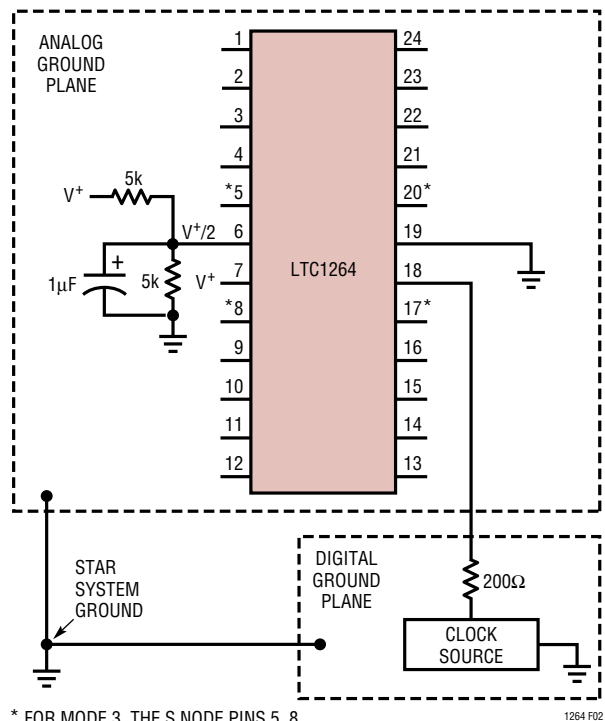

Figure 2. Single Supply Ground Plane Connections
**AGND (Pin 6):** Analog Ground Pin. The filter performance depends on the quality of the analog signal ground. For either dual or single supply operation, an analog ground plane surrounding the package is recommended. The analog ground plane should be connected to any digital ground at a single point. For dual supply operation, Pin 6 should be connected to the analog ground plane. For single supply operation, Pin 6 should be biased at 1/2 supply and should be bypassed to the analog ground plane with at least a 1μF capacitor (Figure 2). For single 5V operation and fCLK greater than 1MHz, pin 6 should be biased at 2V. This minimizes passband gain and phase variations.